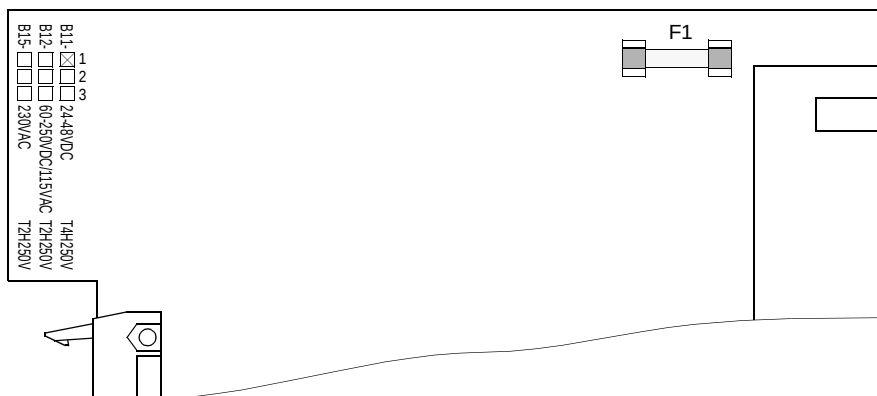

Figure 9-7 Power supply mini-fuse CPU board
- ☐ Has the fuse in the power supply not blown? The location of the fuse is shown in Figure 9-7. If the fuse needs to be replaced, see Subsection 9.5.2.
This data is printed on the module (see Figure 9-7). The type of fuse depends on the auxiliary supply voltage, e.g. for 24 to 48 VDC the fuse type “T4H250V” according to IEC 60127-2 is required (refer to Table 9-1). To maintain the UL-approval, only UL approved fuses may be used (e.g. Messrs. Wickmann. type 181).
- ☐ Remove the defective fuse. Figure 9-7 illustrates the fuse.